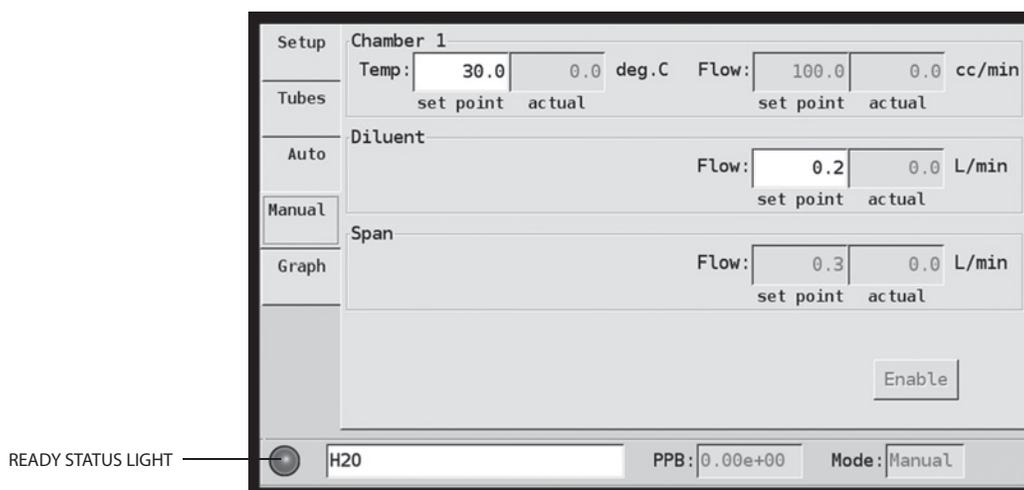

Figure 5: Model 345 Manual screen
1. Open the Manual screen (**Figure 5**) by touching the "Manual" tab on the left hand side of the display.